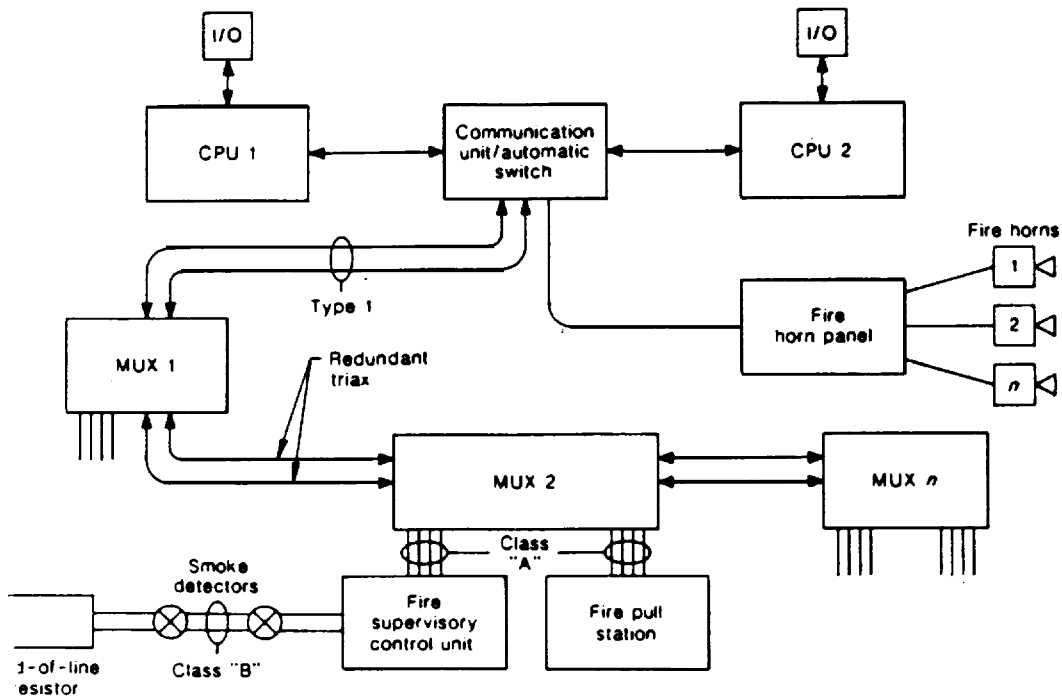
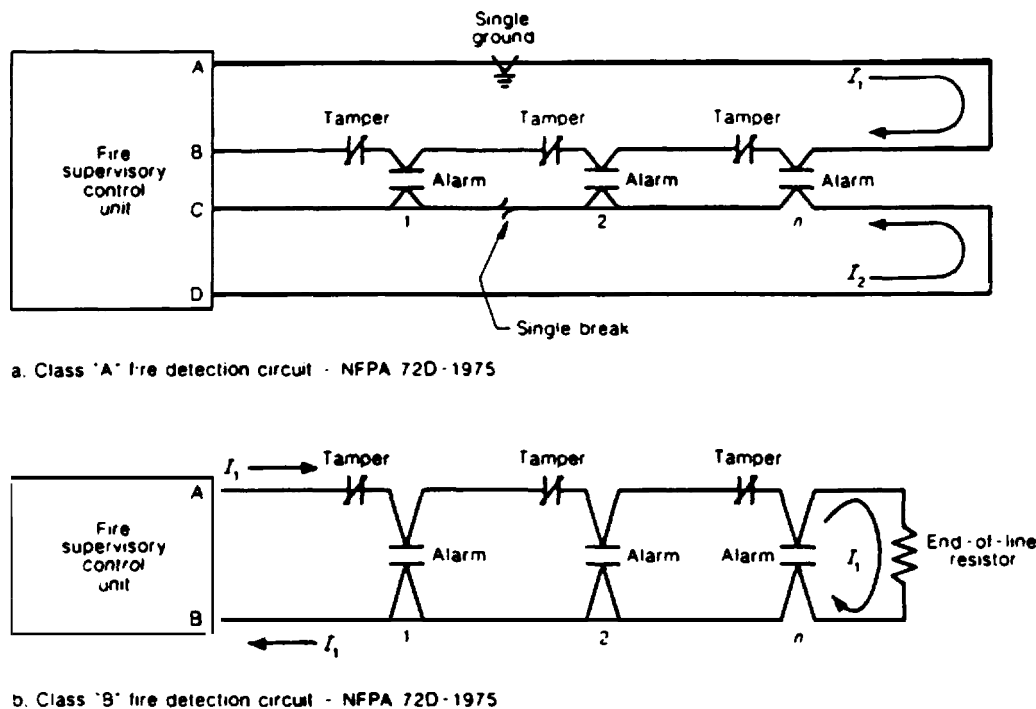

Figure 10-1. Sample computer based fire detection system.
Figure 10-2. Class A and B fire detection circuits.
a. *Fire detection system.* The concept of defense in depth is applied in fire protection when an early warning fire detection system is used to communicate plant or equipment status to a central location or assigned staff. The first line of defense is the early warning fire detection system designed to detect the particles of combustion formed before overt signs of fire appear, followed by systems designed to detect fire and release extinguishing agents. The system's purpose is to provide the earliest possible warning of a potential fire hazard, principally by the extensive use of ionization smoke detections. One of the major advantages of using a remote multiplexing system for fire detection is the ease of adding alarm detectors without the requirement of long conduit and multiple cable runs throughout the plant. A sample arrangement of this type of system is as shown in figure 10-1. The early warning fire detection system may be a Class A proprietary protective signaling system that meets the requirements of The National Fire Protection Association (NFPA) Standard for the Installation, Maintenance, and Use of Protective Signaling Systems (NFPA 72-90). Class A and Class B fire detection circuits are shown in figure 10-2. Class A means a fire alarm can be received and displayed at the central alarm station in the abnormal presence of a single break of